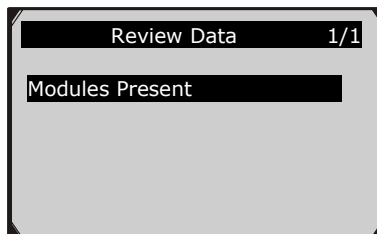

Figure 4.2
- If no data from previously tested vehicle is recorded, only **Modules Present** data containing module ID and protocol type can be reviewed. (Figure 4.2)